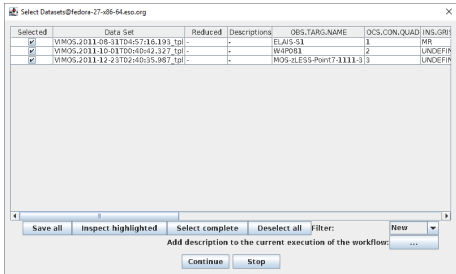

Figure 3.3: The “Select Datasets” pop-up window.
7. The `Data Set Chooser` actor will be highlighted next and will display a “Select Datasets” window (see Figure 3.3) that lists the datasets along with the values of a selection of useful header keywords³. The first column consists of a set of tick boxes which allow the user to select the datasets to be processed. By default all complete datasets which have not yet been reduced will be selected. A full description of the options offered by the `Data Set Chooser` will be presented in Section 6.3.2.